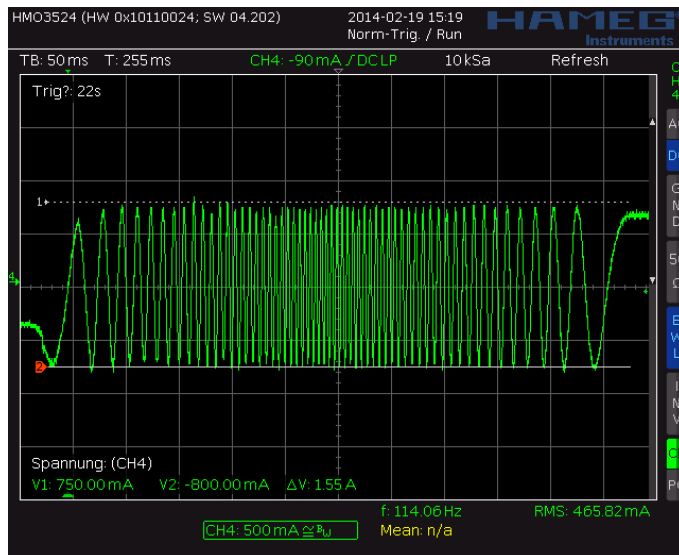
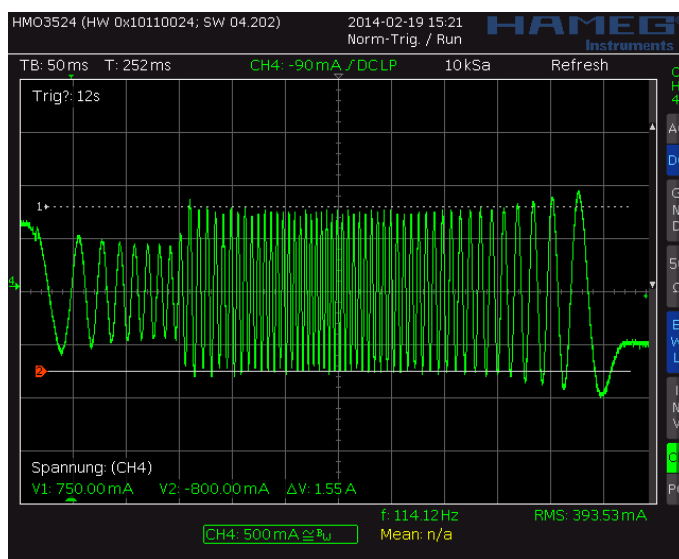
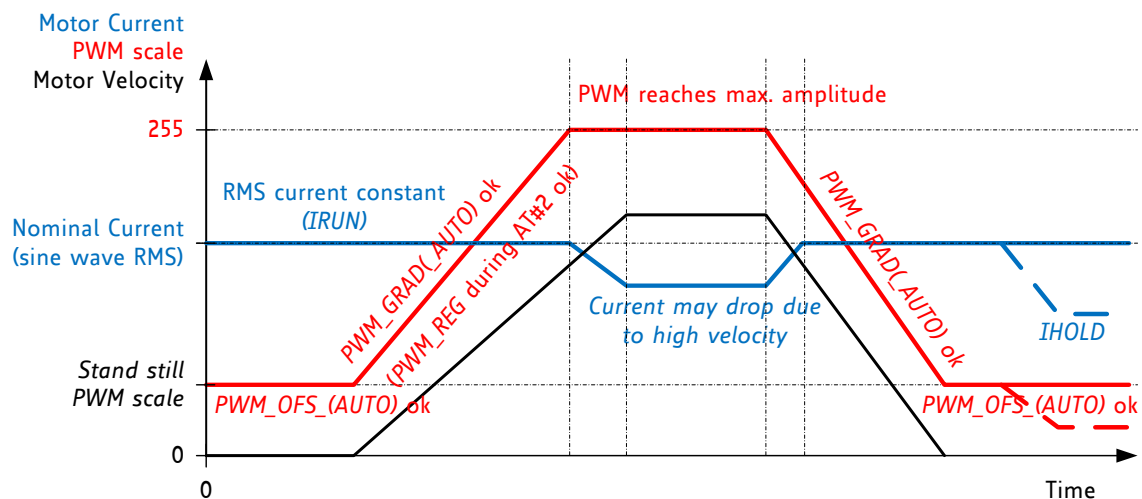

Figure 7.3 Scope shot: good setting for PWM_REG
Figure 7.4 Scope shot: too small setting for PWM_REG during AT#2
Figure 7.5 Successfully determined PWM_GRAD(AUTO) and PWM_OFS(AUTO)
In StealthChop voltage PWM mode, the autoscaling function (*pwm_autoscale* = 1, *pwm_auto_grad* = 1) regulates the motor current to the desired current setting. Automatic scaling is used as part of the automatic tuning process (AT), and for subsequent tracking of changes within the motor parameters. The driver measures the motor current during the chopper on time and uses a proportional regulator to regulate *PWM_SCALE_AUTO* in order match the motor current to the target current. *PWM_REG* is the proportionality coefficient for this regulator. Basically, the proportionality coefficient should be as small as possible to get a stable and soft regulation behavior, but it must be large enough to allow the driver to quickly react to changes caused by variation of parameters (e.g., change of mechanical load). During initial tuning step AT#2, *PWM_REG* also compensates for the change of motor velocity. Therefore, a high acceleration during AT#2 will require a higher setting of *PWM_REG*. With careful selection of homing velocity and acceleration, a minimum setting of the regulation gradient often is sufficient (*PWM_REG*=1). *PWM_REG* setting should be optimized for the fastest required acceleration and deceleration ramp (compare Figure 7.3 and Figure 7.4). The quality of the setting *PWM_REG* in phase AT#2 and the finished automatic tuning procedure (or non-automatic settings for *PWM_OFS* and *PWM_GRAD*) can be examined when monitoring motor current during an acceleration phase Figure 7.5.